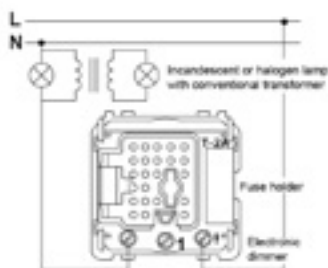
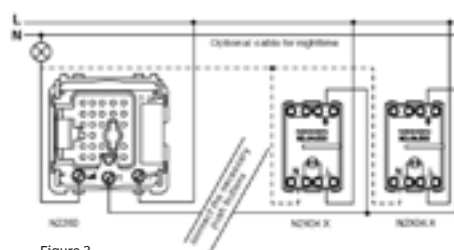

Figure 1
Figure 2
- Connect the dimmer based on the wiring scheme (Figs. 1 and 2).
The electrical wiring for these devices is performed according to the wiring diagram shown in Figure 1. The incoming arrow indicates the phase/line wire of the installation and the outgoing arrow indicates the wiring towards the receptor/load according to Figure 1. The terminal "1" is used to enable the remote control from several points using conventional pushbuttons, refer to the Figure 2. If the device is to be installed individually, follow the instructions indicated in Figure 1.
This dimmer allows the remote control using conventional auxiliary pushbuttons, making it possible to control the turning on and off and dimming features from different points by means of only one electronic device and any number of conventional pushbuttons as desired. In case it is required to allow control from several points, refer to the Figure 2. Any number of auxiliary conventional pushbuttons may be used as needed. The outputs of these pushbuttons are connected to terminal "1". See Figure 2.